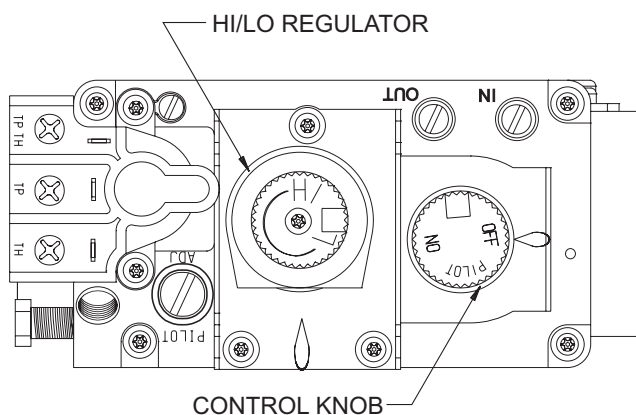

Figure 59
**NOTE:** The gas control valve allows you to increase or decrease the height of the main burner flame. The control valve has a pressure regulator with a knob as shown in Figure 59. Rotate the knob clockwise to “HI” to increase the flame height and counterclockwise to “LO” to decrease the flame height.